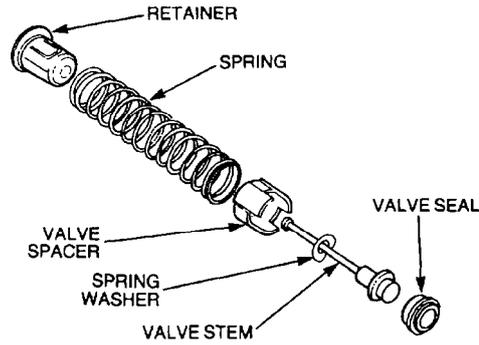

Figure 146 Valve Stem Disassembly
- Remove the spring, retainer, valve spacer and spring washer from the valve stem. Remove and discard the valve seal (Figure 146).
- Install the valve seal, with the flat side first, onto the end of the valve stem (Figure 146).
- Install the spring washer, domed side first, over the small end of the valve stem (Figure 146).